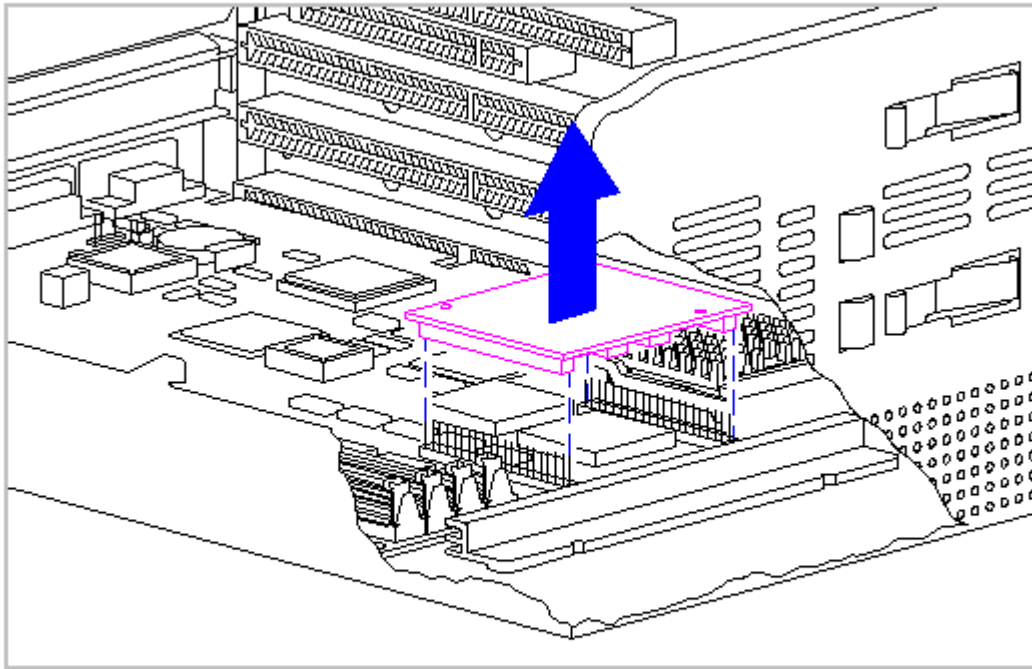

Figure 5-49. Removing the Secondary Cache Board
4. Remove the secondary cache board as shown in Figure 5-49.
The 1 MB DRAM memory upgrade module is installed on the 486-based system board with PCI Local Bus Integrated Graphics in the location indicated in Figure 5-49. To remove and replace the memory modules complete the following steps: